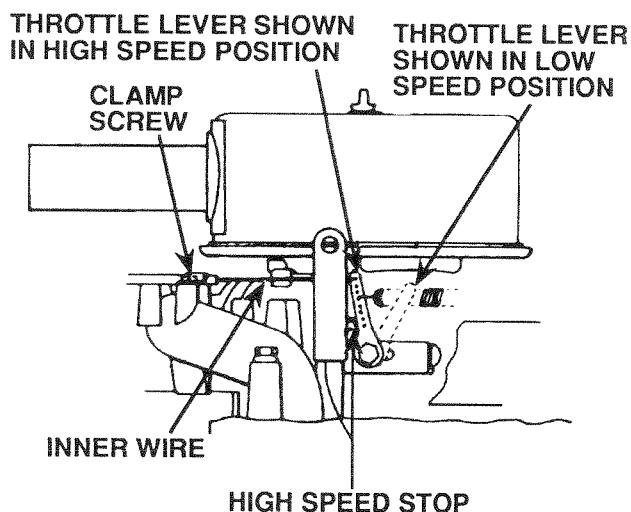

FIGURE 25
- a. Loosen Clamp holding Throttle Cable at Carburetor (Fig. 25).
- c. Pull outer Cable until tight (Fig. 25).